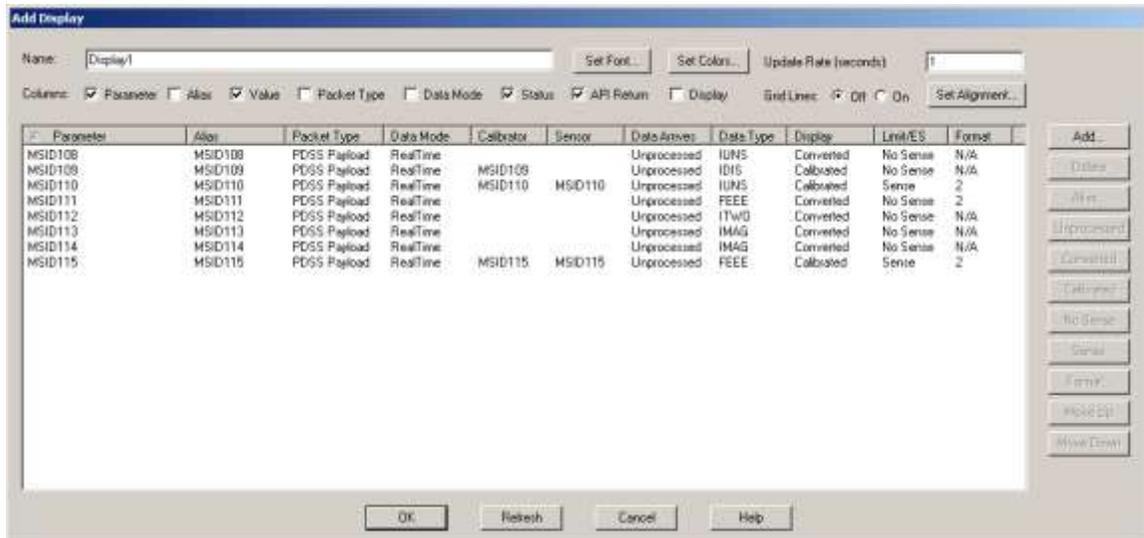

Figure 30 Add Display Dialog Populated with Parameters
8. Your Add Display dialog should now look like the dialog shown in Figure 30.